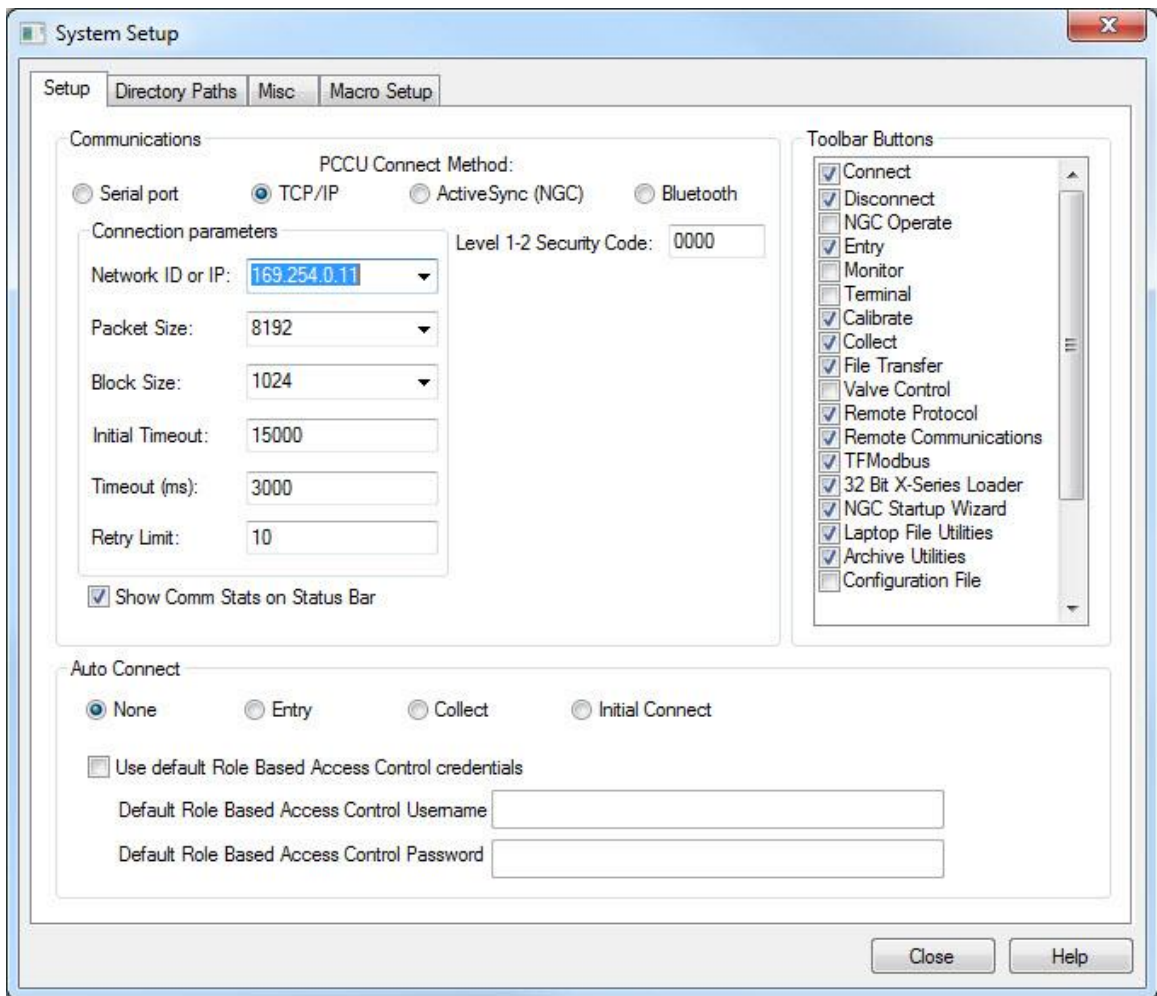

Figure 48: Set up TP/IP communication over Ethernet
3. Click **Setup** from the toolbar. The **Setup** screen for communication displays (Figure 48).